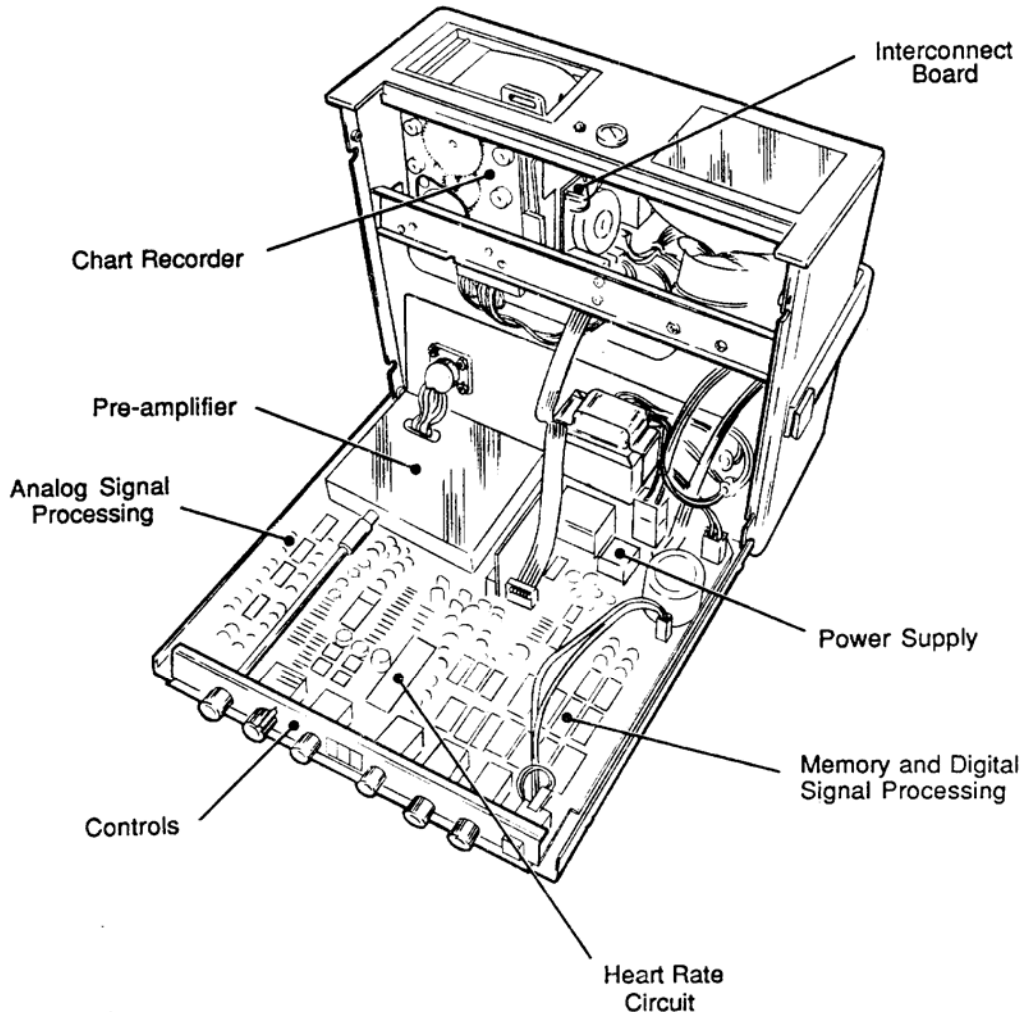

Figure 1-10. Monitor circuit board.
a. **Access the Monitor Main Circuit Board.** To calibrate the monitor, you must access the main circuit board. Remove the monitor chassis from the base. Follow the procedures in paragraph 1-3.b. Rotate the monitor into an upright position (figure 1-10).